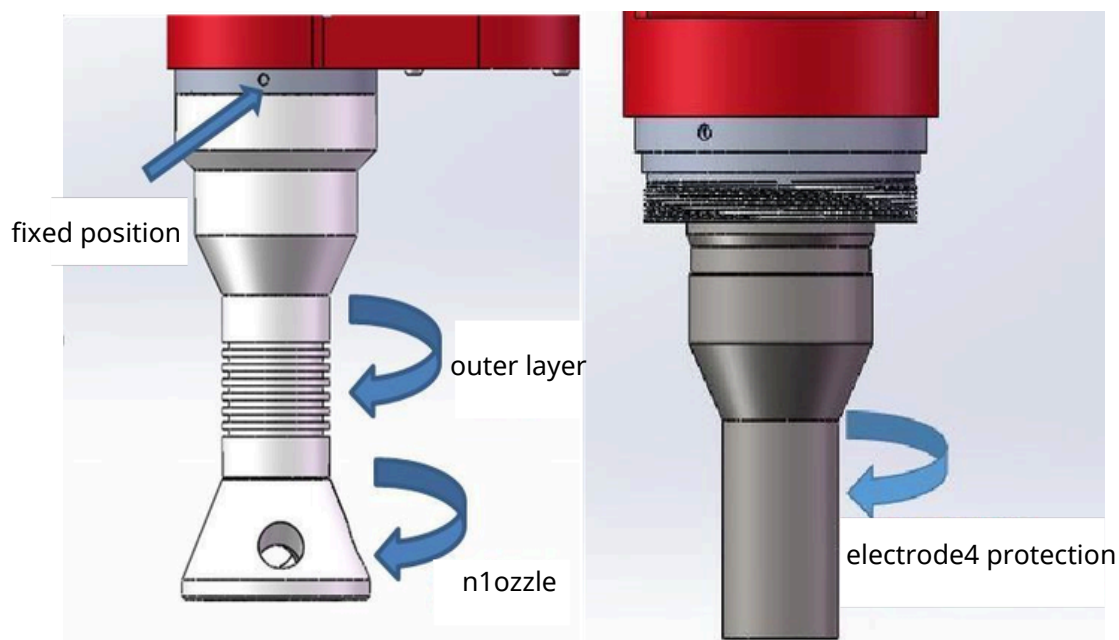

Figure 7-1 Outer layer protection of nozzle and Figure 7-2 Outer layer protection of plasma electrode
- (1) Remove the outer layer protection of the nozzle and the nozzle clockwise, as shown in Figure 7-1;